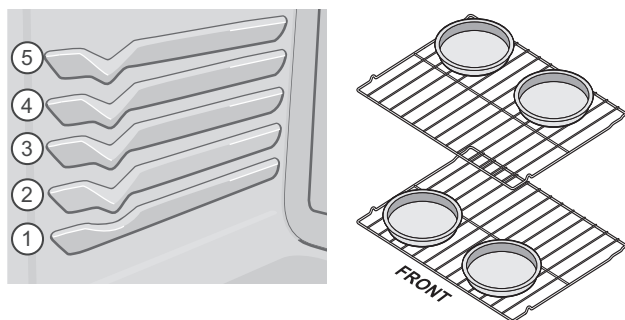

Figure 22: Convection rack positions (L) and pan spacing (R)
- For best results when baking cakes using two oven racks, place racks in positions 2 and 4 as shown in Figure 22.